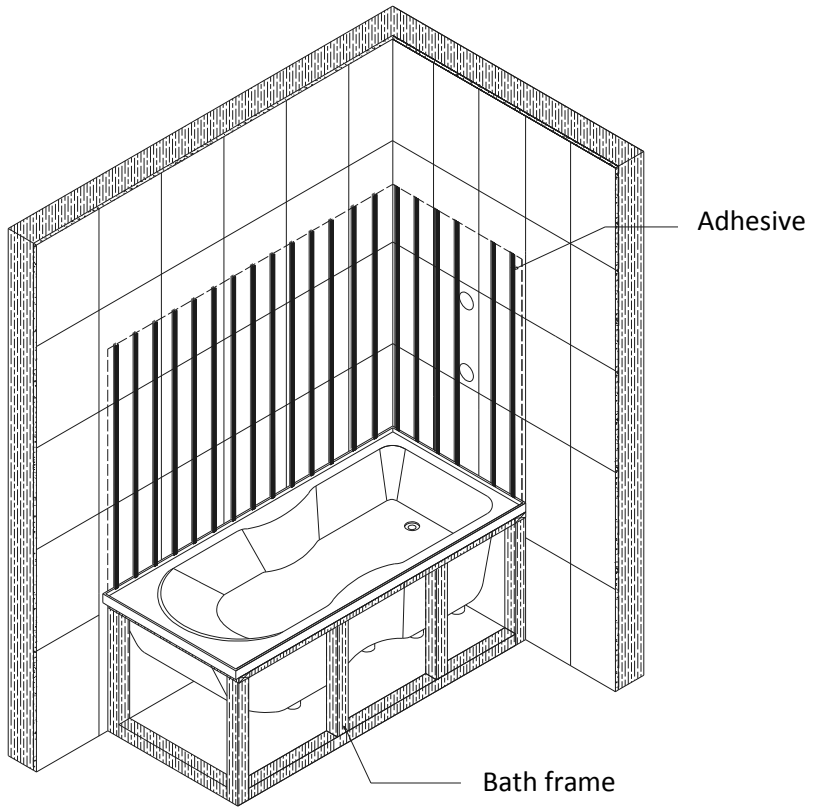

Fig7
6. Use the correct lining adhesive supplied to run beads of adhesive in the following pattern. Approximately 20mm in from the pencil line run a bead of adhesive. Continue then to infill with adhesive at about 100mm centers. Continue till the complete area where the wall liner fits is in-filled correctly. **FIG7**